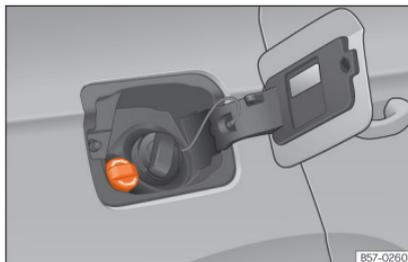

Fig. 220 AdBlue tank cap.
- Open the tank cover »» **Fig. 220**.
- Turn the SCR tank cap anti-clockwise »» Fig. 220.